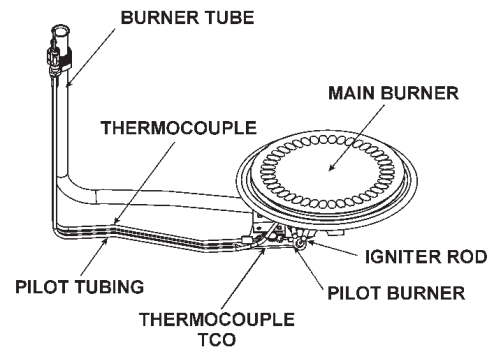

FIGURE 1.
4. Carefully plan the place where you are going to put the water heater. Correct combustion, vent action, and vent pipe installation are very important in preventing death from possible carbon monoxide poisoning and fires, see Figures 1 and 2.